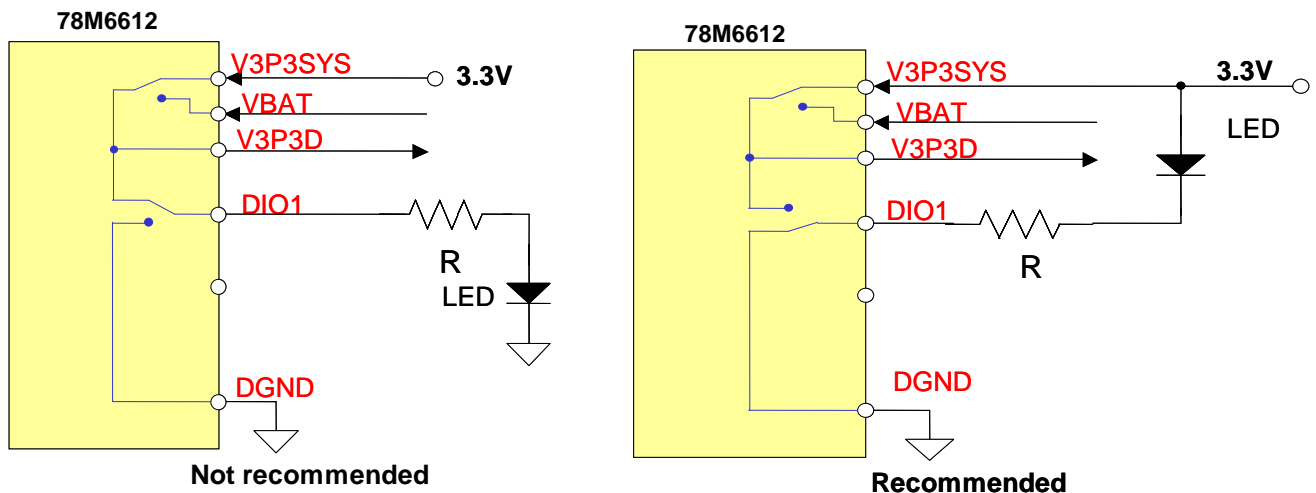

Figure 8: Connecting an External Load to DIO Pins
**When driving LEDs, relay coils etc., the DIO pins should sink the current into ground (as shown in Figure 8, right), not source it from V3P3D (as shown in Figure 8, left). This is due to the resistance of the internal switch that connects V3P3D to either V3P3SYS or VBAT.**